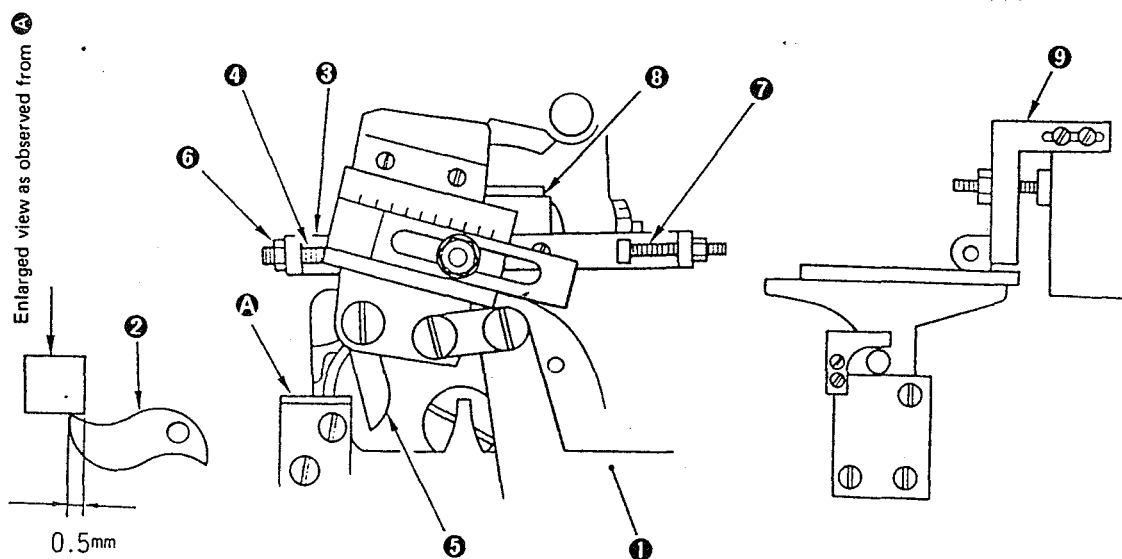

Fig. 46
Changing positioning screw ⑥ shown in Fig. 46 will change the needle entry of the first bartack. So, position the positioning screw so that the troubles in sewing including stitch gathering, thread breakage and stop-motion of the sewing machine do not occur during bartacking. The needle entry at the sewing end is determined using positioning screw ⑦.
<p>Corrective measure :</p> <ol style="list-style-type: none"> 1. The throat plate of which needle hole is 1.6 mm wide is currently used as standard. However, check whether the throat plate is the standard type. Part No. of the throat plate : 16273807 (If the throat plate with a needle hole of 1.2 mm wide, thread breakage is likely to occur.) 2. Slightly decrease the thread tension during bartacking. 3. Check whether the standard value of 3 mm is provided as illustrated in Fig. 2. (If the protruding amount of the screw is not 3 mm, adjust so that the standard value is provided and check the finished state of the seam.) 4. If the screw protrudes from the change-over lever by 3 mm, tighten or loosen the screw by one or two threads to change the change-over timing. 	<p>Since adjustment ⑥ in Fig. 46 changes the timing of applying tension to the thread at the first bartack, stitches may excessively gather to make a lump of thread or the needle may penetrate the thread resulting in thread breakage.</p> <p>Adjustment ⑦ in Fig. 46 changes the position of the last needle entry at the sewing end. If bartack at the sewing end is not made properly to prevent the stitches from fraying, perform adjustment ⑦.</p>